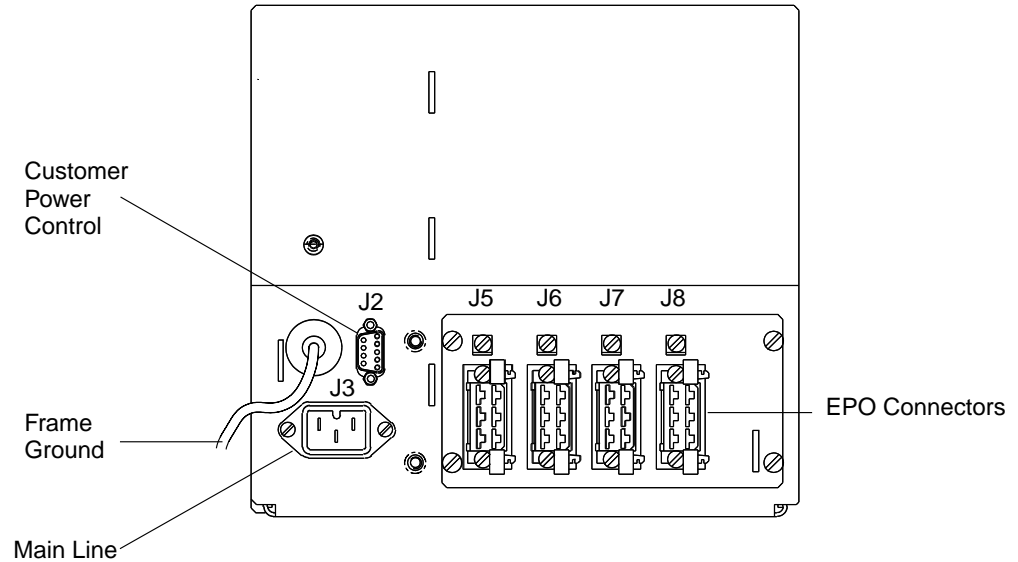

Figure 2-2. Primary Power Box (Rear View)
- ____ If the power cable is not secured to the 3745, plug it to connector J3 at the rear of the 3745 primary power box (see Figure 2-2 on page 2-3 for location). Secure the cable with clamp P/N 303538 or 804109, using screw P/N 1621182.
Step 4. ____ Connect the EPO cables (up to four) to the EPO sockets in location 01S-A0J5 to 01S-A0J8 at the rear of the primary power box (see Figure 2-2 on page 2-3).